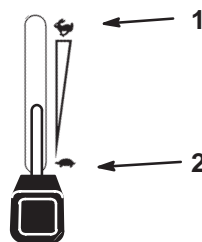

Figure 13
1. Push the PTO to the off position (Fig. 13).
2. Move the throttle lever midway between the slow and fast positions (Fig. 13).